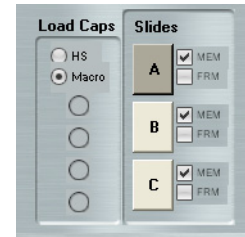

Figure 56 Cap and slide handling area
1. Place the cursor to the right of the slide overview image, right-click on the **Cap** button for the cap of interest in the QC cap position (see Figure 56).
You can also add caps to the Load Caps area by clicking a cap in the Load area here (see Figure 56). This shortcut lets you load caps without opening the Load Options dialog box, but to use this shortcut, the corresponding QC Caps position must be empty.